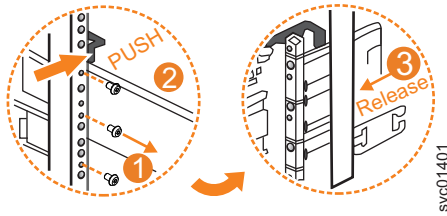

Figure 111. Remove the rail assembly from the rear frame bracket
3. Remove the two screws that attach the inner rail section to the rear bracket, as shown in Figure 111 on page 129.
4. Pull the rail forward, away from the rear bracket, as shown in Figure 111.